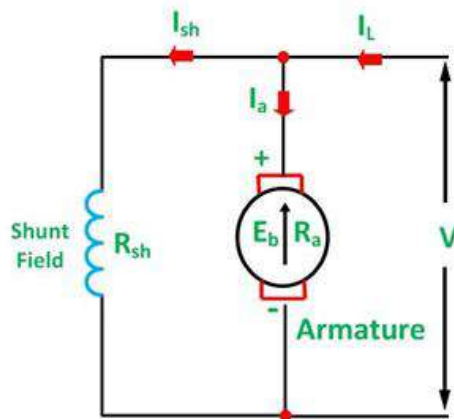

Figure.2.5. self excited DC Motor – Shunt wound.
2.2.2.2. Shunt wound Motor. In this type of DC motor, the field windings are connected in parallel with armature conductors, as shown in the figure 2.5. In shunt wound motors voltage in the field winding is same as the voltage across terminal.